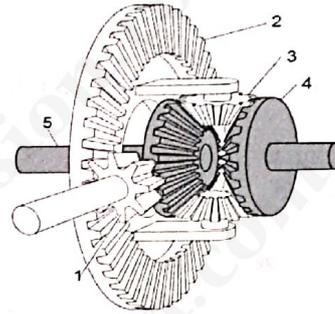

Figure 6
Figure 6 below shows a unit in the transmission system. Answer questions 36 and 37 using figure 6.
36. Part 1 and 2 in figure 6 are called